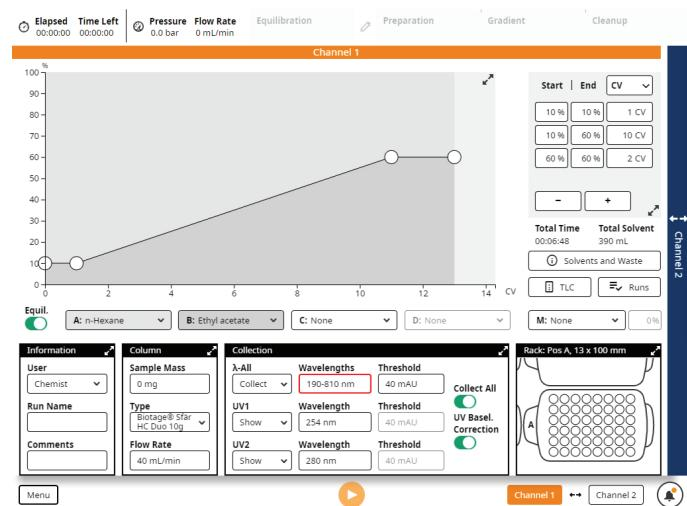

Figure 11. The run setup view.
- Either scan your column using the QR reader underneath the touch screen (see Figure 10) or select the column type from the **Column Type** drop-down list in the **Column** panel (see Figure 11).
Note: An invalid setting is highlighted with a red frame (see Figure 11); press in the bottom right corner for more information.